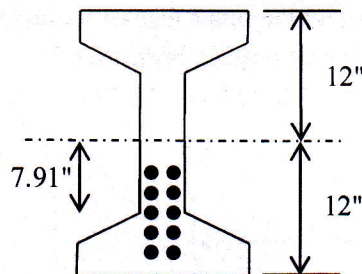

Fig: 6
9. A simply supported symmetrical prestressed I beam section having a span of 40 ft is shown in **Fig 6**. It has the following section properties: